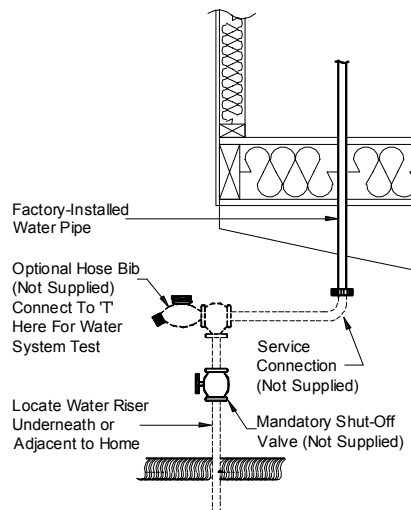

Figure 94. Water system connection
To connect the home's water system to the water source, identify the water inlet located under the home (usually below the water heater compartment or utility room) and follow the procedure described below (refer to **Figure 94**):
3. **Pressurize system.** Connect a hydrostatic pump, valve, and gauge to the location shown in **Figure 94**. Pressurize the system with water at 100 psi, and then isolate it from the pressure source. Bleed all air from the highest and farthest points in the system.